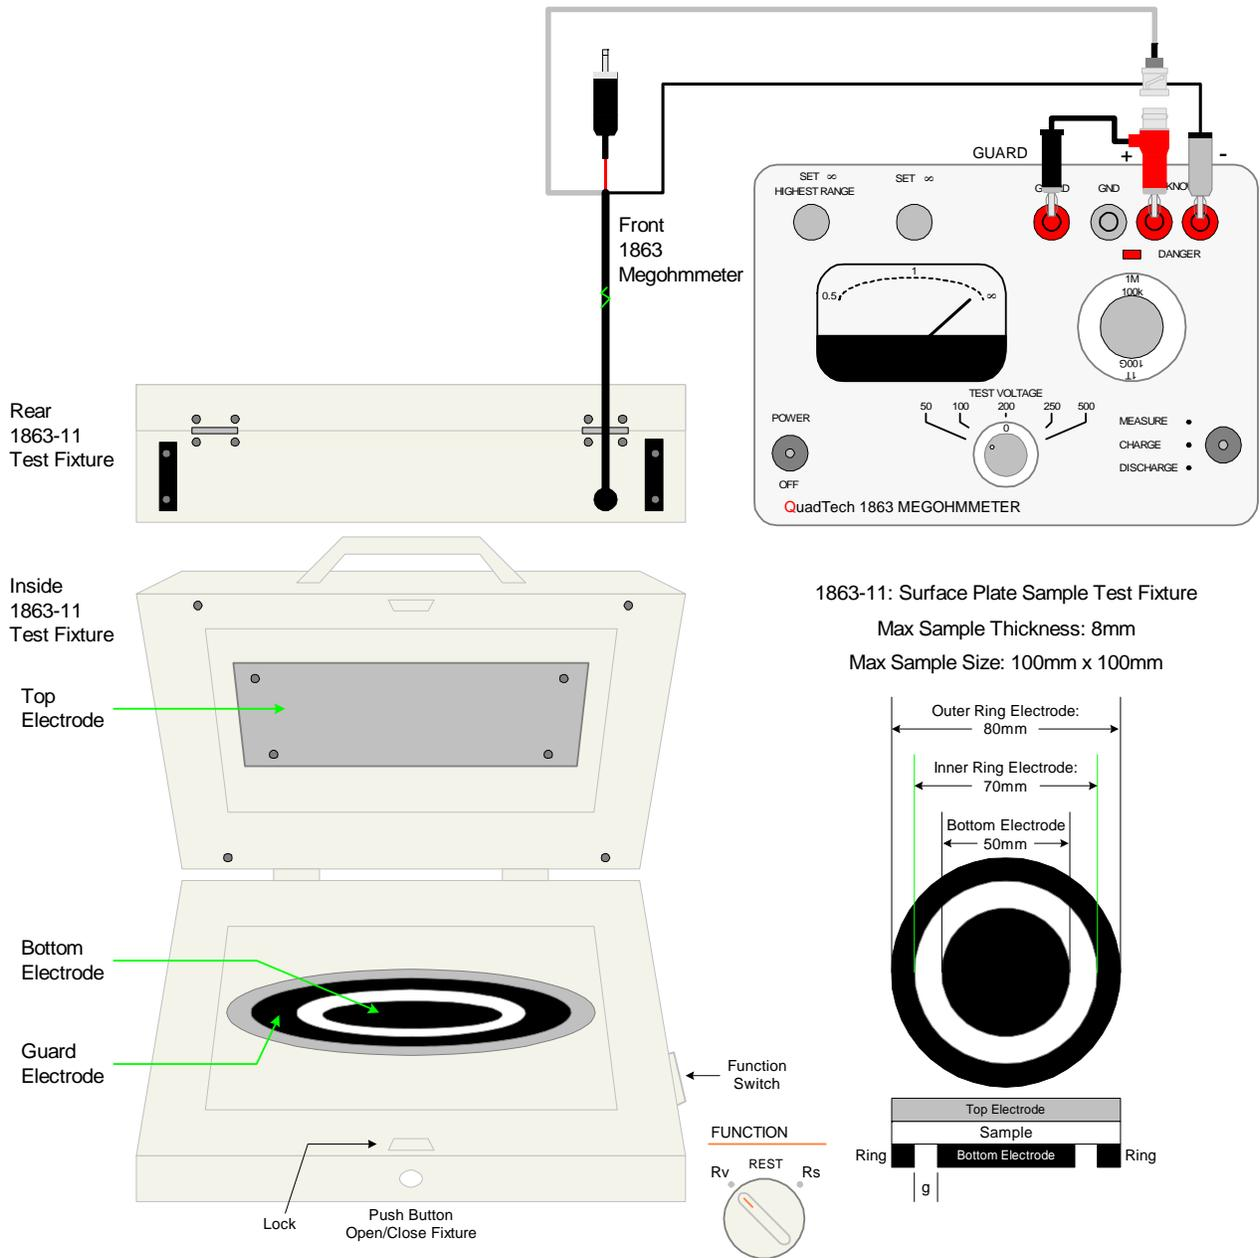

Figure 2: Connection of an 1863-11 Test Cell to an 1863 Megohmmeter
Make connections carefully as illustrated in Figure 2. It is important to follow these directions exactly to avoid improper measuring techniques and damage to the test fixture. Proper knowledge of material and fixture allows the DUT to be measured accurately while taking into account correct polarity. **To connect the fixture to an 1863 Megohmmeter:**
- For accurate measurements perform a zero each time the voltage is changed and each time the Rs/Rv switch setting on the fixture is changed. Refer to Figure 2.
Figure 2 illustrates the connection of the 1863-11 Test Cell to an 1863 Megohmmeter.